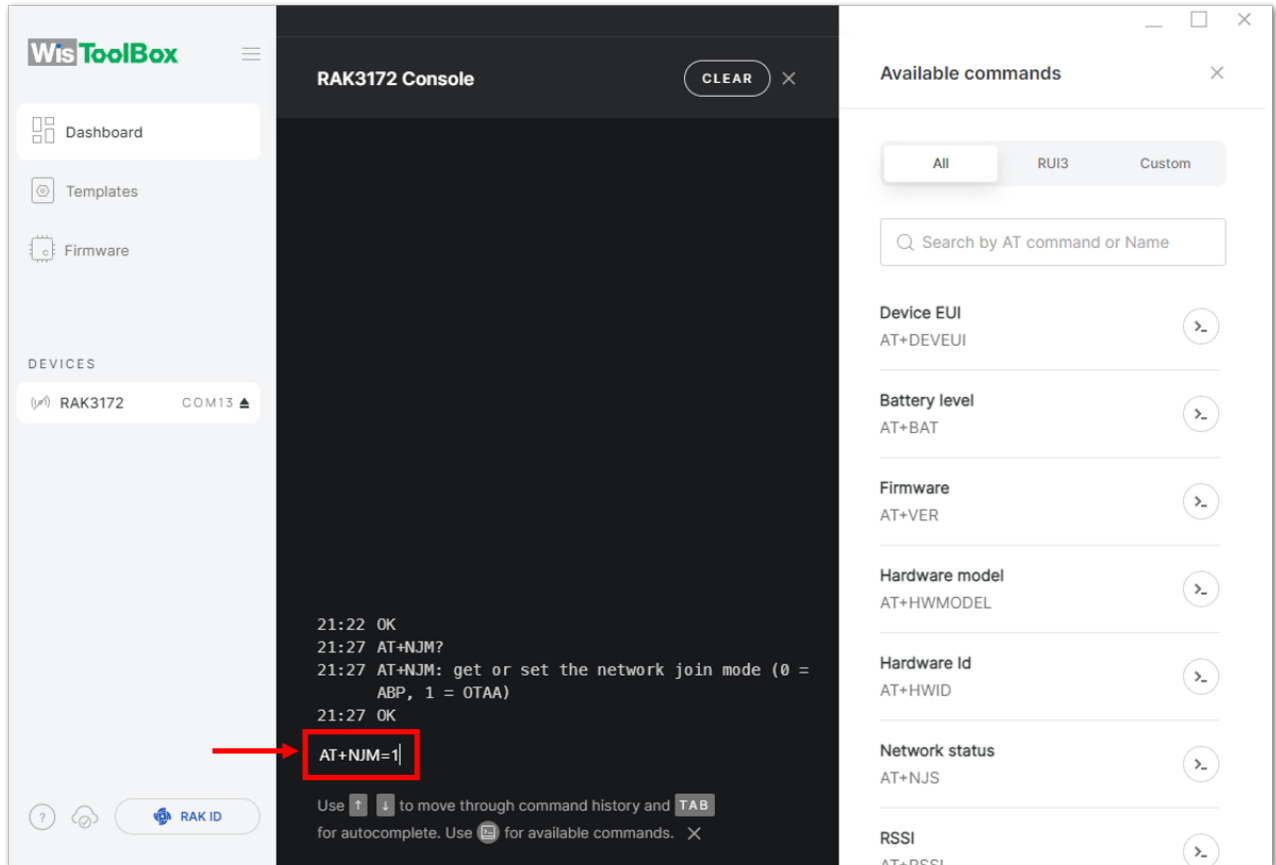

Figure 80: Setting up your Console
8. Then configure the LoRaWAN join mode to **OTAA**. You can check what parameter you will input by typing **AT+NJM?** then **Enter** into the console terminal. For **OTAA**, you should input **AT+NJM=1** then press **Enter** as shown in **Figure 80**.